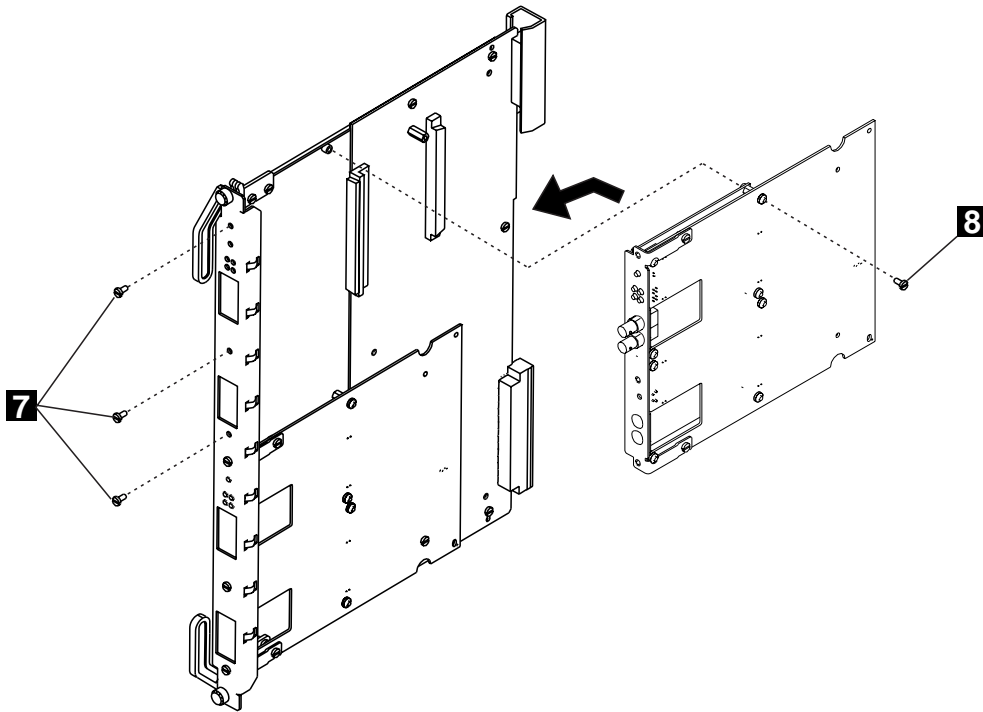

Figure 17. Reattaching the Motherboard
- 8 Reattach the motherboard to the module using the four screws (7 and 8 in Figure 17) that originally held the motherboard.